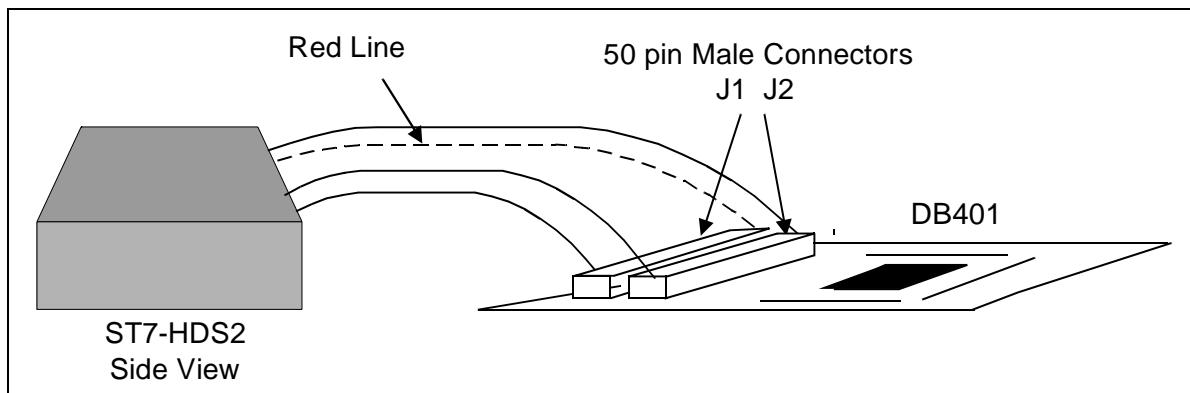

Figure 5: Connecting the emulator to the ST7MDTU2 generic probe
- 2 Plug the two 50-wire flat cables into the J1 and J2 connections on the probe, as described below (refer also to *Figure 5*):